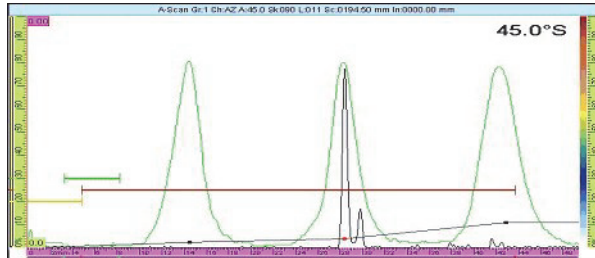

Figure 6-9 An envelope with peaks at 80 %
3. Move the probe to scan over the calibrated reflector, and verify that all the peaks reach 80 % (see Figure 6-9 on page 167).